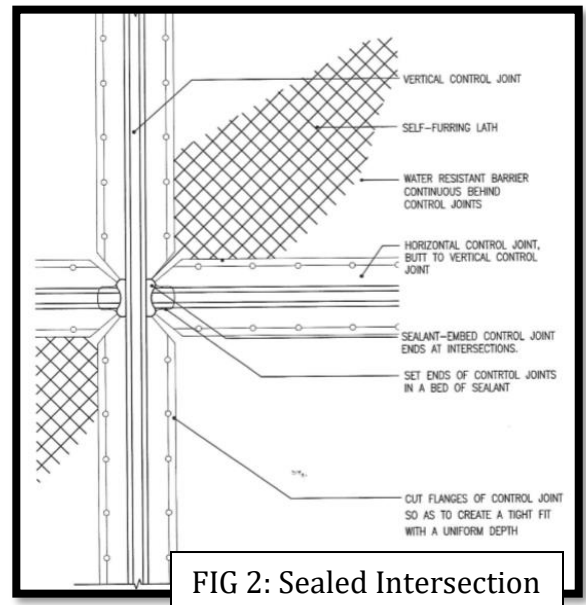

FIG 2: Sealed Intersection
- Attachment of a control joint may be by nail, staple, or screw to framing. The optional method is to wire tie to properly secured lath. Fastening shall secure joint to not move during the application of plaster. Terminations, joints, and miters are recommended to be sealed to prevent water entry on walls in Moist A or Marine C zones (see Fig 2).